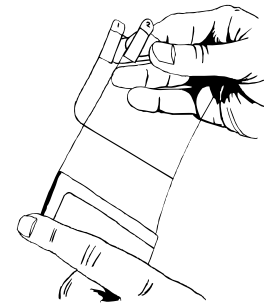

Figure K-1
- Identify Tab 1 and Tab 2 prior to removing any protective layer. Peel back adhesive Tab 1, from the bottom, to expose half of the protector (see Figure K-1).